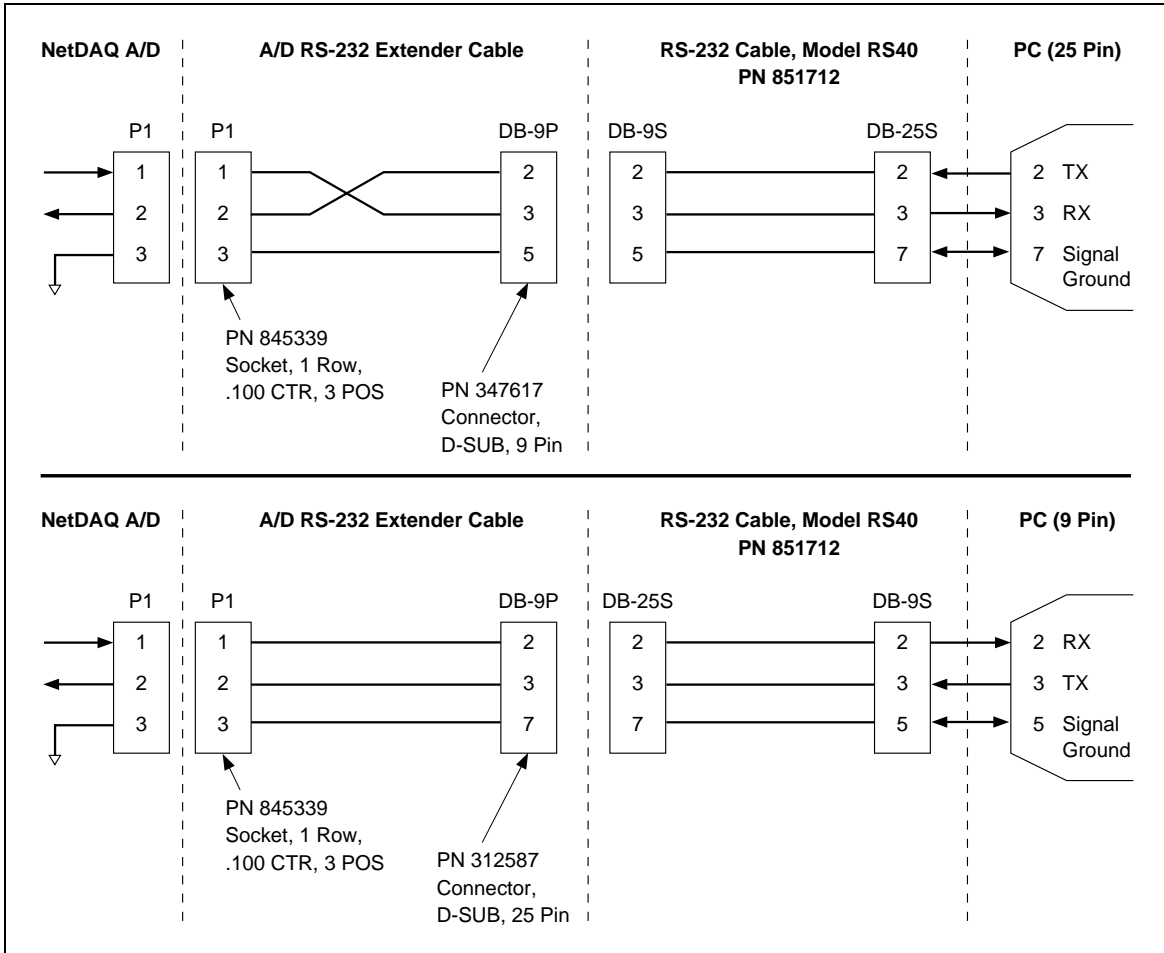

Figure 5-3. Connection to A3P1 for Loading A/D Firmware
4. Connect the selected PC COM port to A3P1 using the connection shown in Figure 5-3. This connection must be made when instrument power is on. Use standard connector parts to assemble this custom cable.